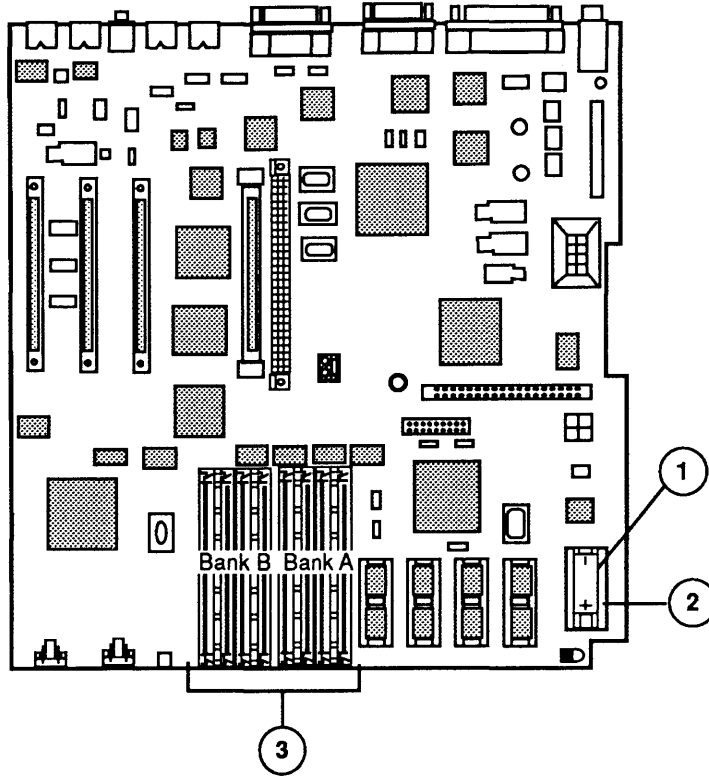

Figure 5 Macintosh IIci – Logic Board
□ **MACINTOSH IIci – LOGIC BOARD (Figure 5)**